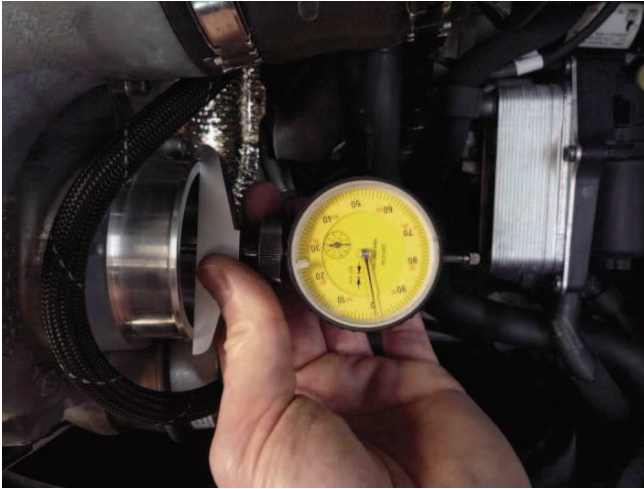

Figure 3
8. Position depth gage with measuring bridge at compressor housing in the middle so that it is level (Figure 3).